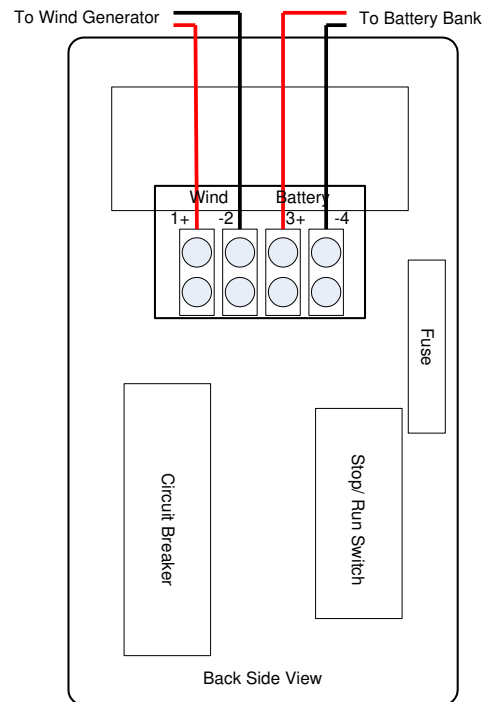

Figure 2
**Wind Generator Connection:** Mechanically tie off the wind turbine blade so that it cannot operate while making your connections. Connect the wires of the 12-48V wind turbine feed wires to the terminals marked wind. Negative to -2 and Positive to 1+ of the Control Panel using the appropriate wire size (8 AWG or smaller) which the blocks will accept, see Figure 2. If a larger gauge wire is required, use a few inches of 8 AWG wire to transition to the terminal blocks. The green grounding wire of the wind generator is connected to the grounding system.
- 1) **Battery Connections:** Be sure battery feed wires are not connected to the battery at this time. Connect the battery feed wires to terminals marked Battery with Negative to -4 and Positive to 3+ of the control panel using the appropriate wire size (see Figure 2).